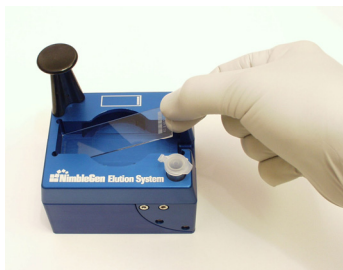

Figure 13: Placing a Slide into the Elution System
2. Wipe the *back* side of the slide with a clean tissue (the *front* side of the slide is the side on which you can read the barcode numbers in the correct orientation). Place the slide *front* side up within the Elution System at room temperature (Figure 13).